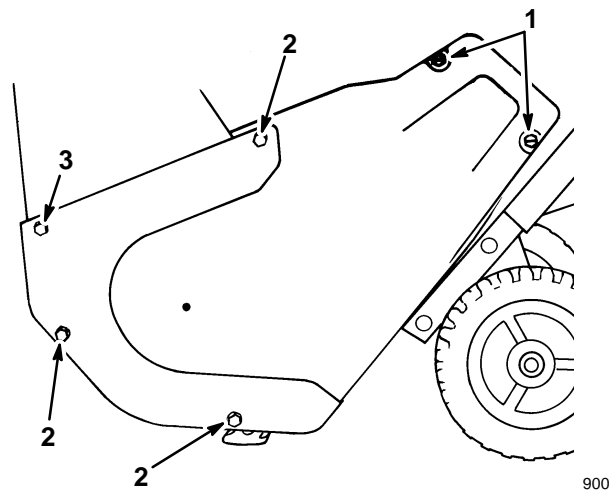

Figure 12
4. Remove three self tapping screws, three capscrews, a washer, and three nuts that secure the left side cover to the snowthrower frame (Fig. 12).